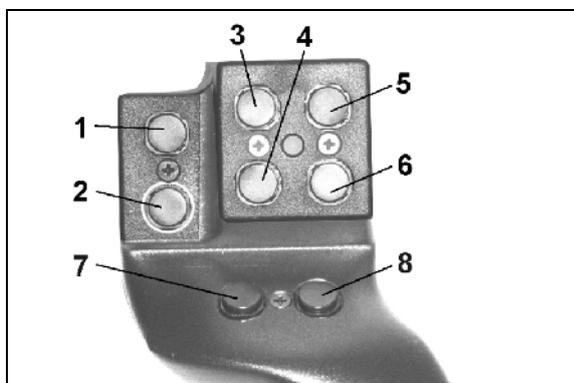
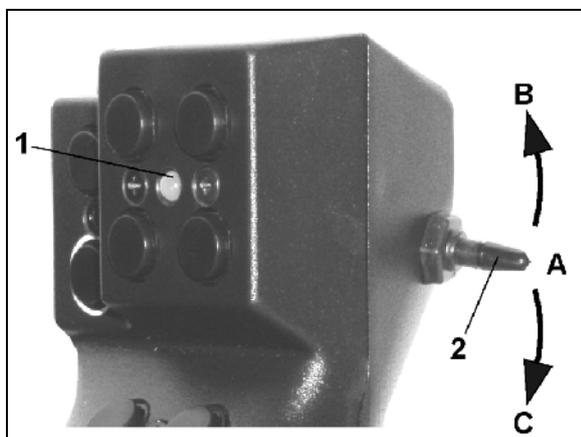

Fig. 129
Fig. 130
To operate the AMATRON⁺, the multifunction stick (Fig. 129) has 8 keys (1 - 8). In addition, the assignment of the keys can be changed 3-fold by means of a switch (Fig. 130/2).
- central position (Fig. 130/A); the switch can be pressed in the following directions:
- up (Fig. 130/B) or
- down (Fig. 130/C).
The position of the switch is indicated by an LED (Fig. 130/1).